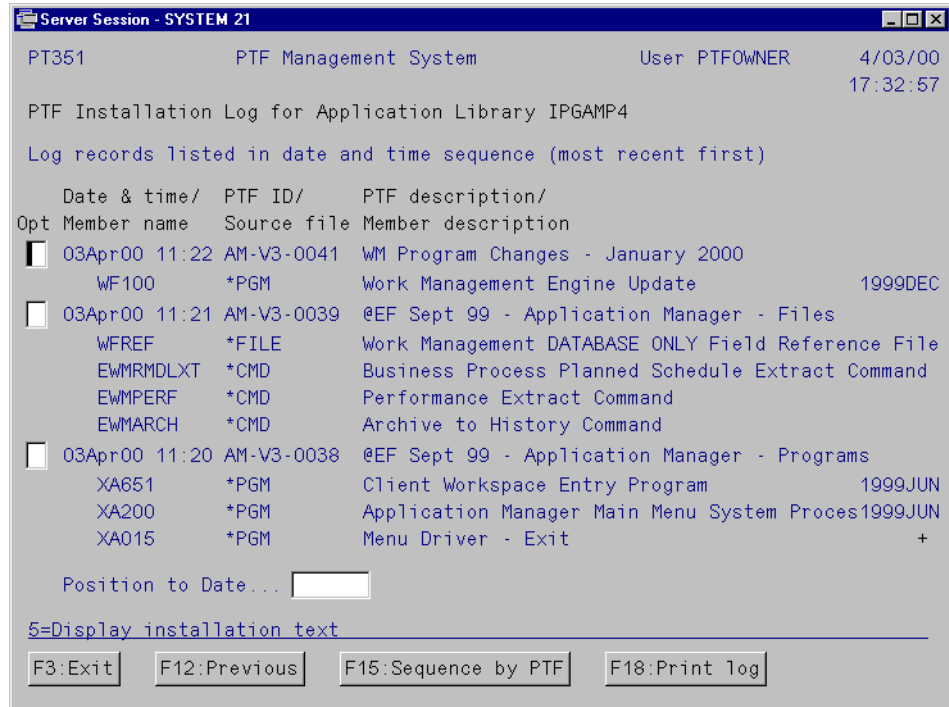

Figure 101. PTF Installation Log inquiry screen
4. By default, the list is sorted in descending order of installation date (see Figure 101 on page 196). The first entry is the last PTF installed and the current PTF level of that library.